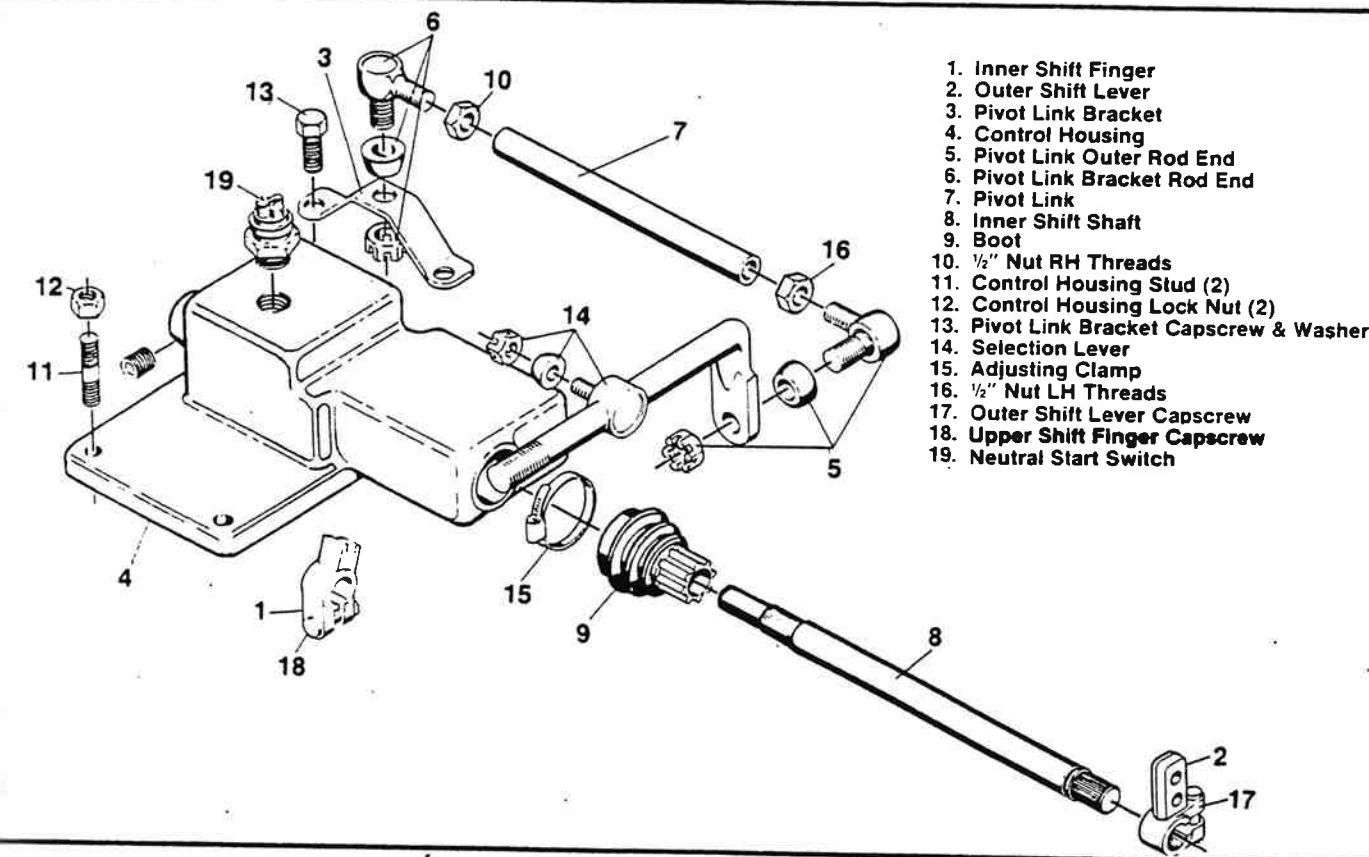

Figure 13-5. Remote Control Housing.
1. Turn out the two capscrews (13) and remove nuts (12) from the two studs (figure 13-5).